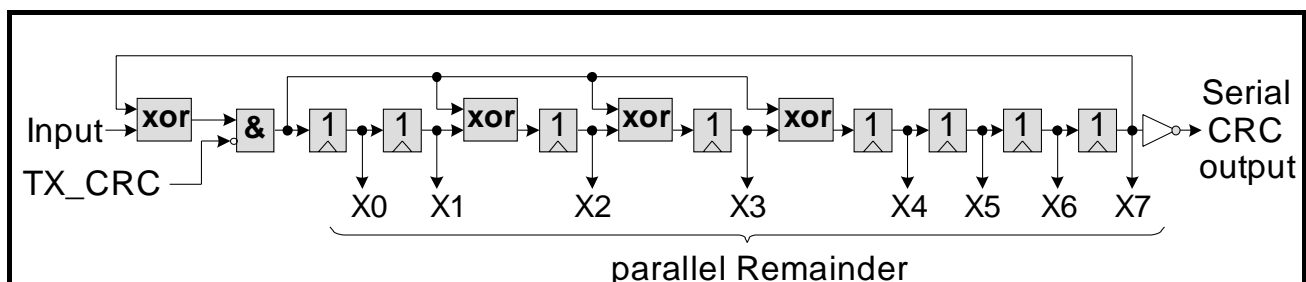

Figure 13 Fast CRC polynomial division circuit
- Generator Polynom: $X^8+X^4+X^3+X^2+1$, for the CRC generation the fast CRC generation circuit is used. (See Figure 13)
Figure 13 shows the fast CRC Polynom.